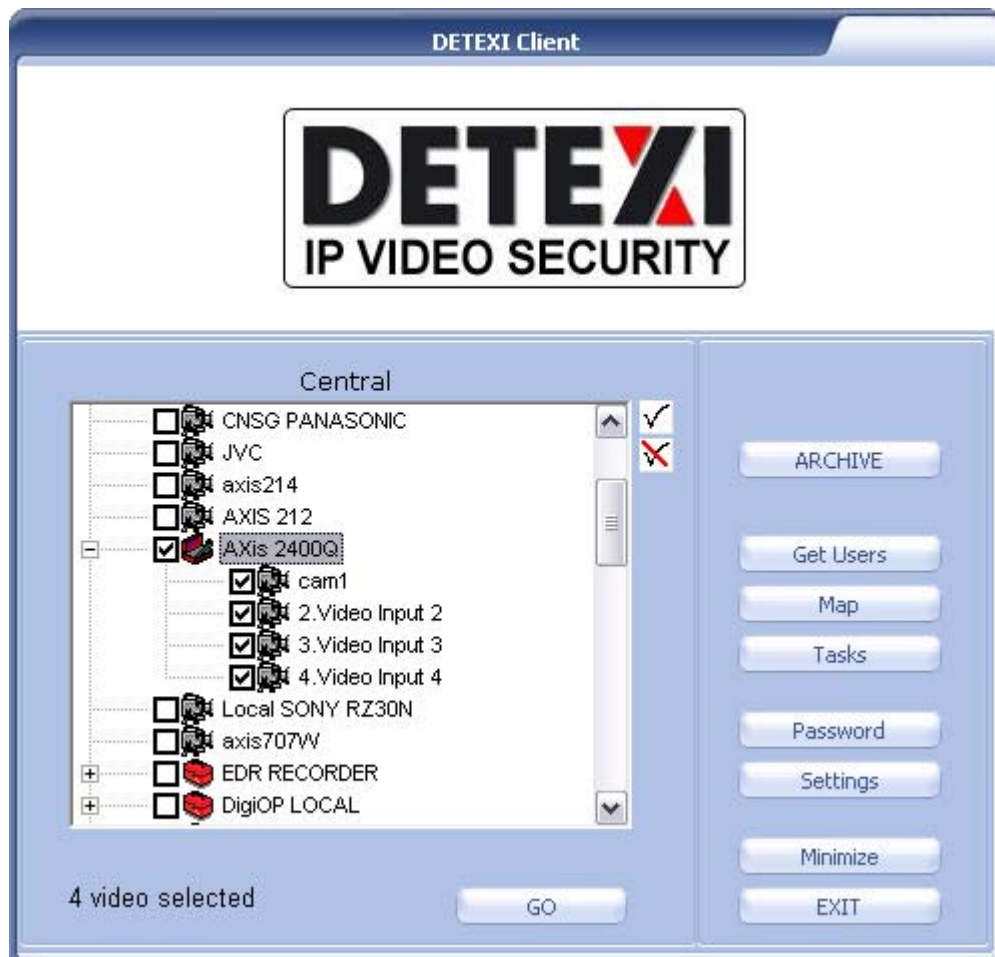

Fig 33. DETEXI Client — Start page
1. On the DETEXI Client Start Page click **Map** button to launch a MAP page allowing for users to browse and select cameras by location on one or more maps (Fig 33).